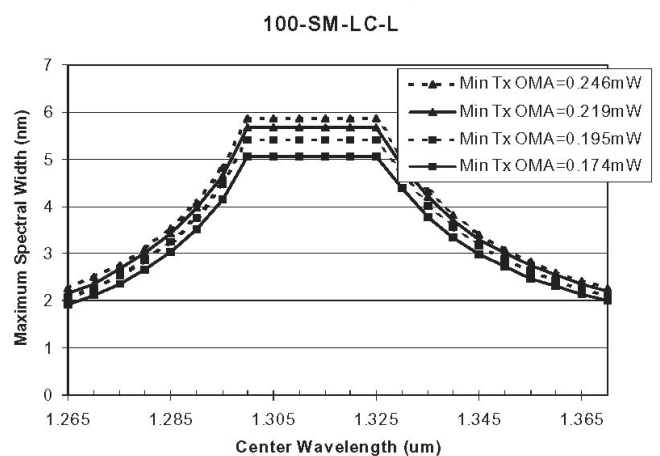

Figure 10. Maximum spectral width tradeoff curves from FC-PI Rev 13
| Center Wavelength | $C\lambda$ | 1272 | | 1355 | nm | 3, Fig 10 |
| Spectral Width - RMS | | | 1.31 | 4 | nm | 3, Fig 10 |
3. In order to meet the link power budget the transmitter can trade off OMA, spectral width and center wavelength as shown in Figure 10.